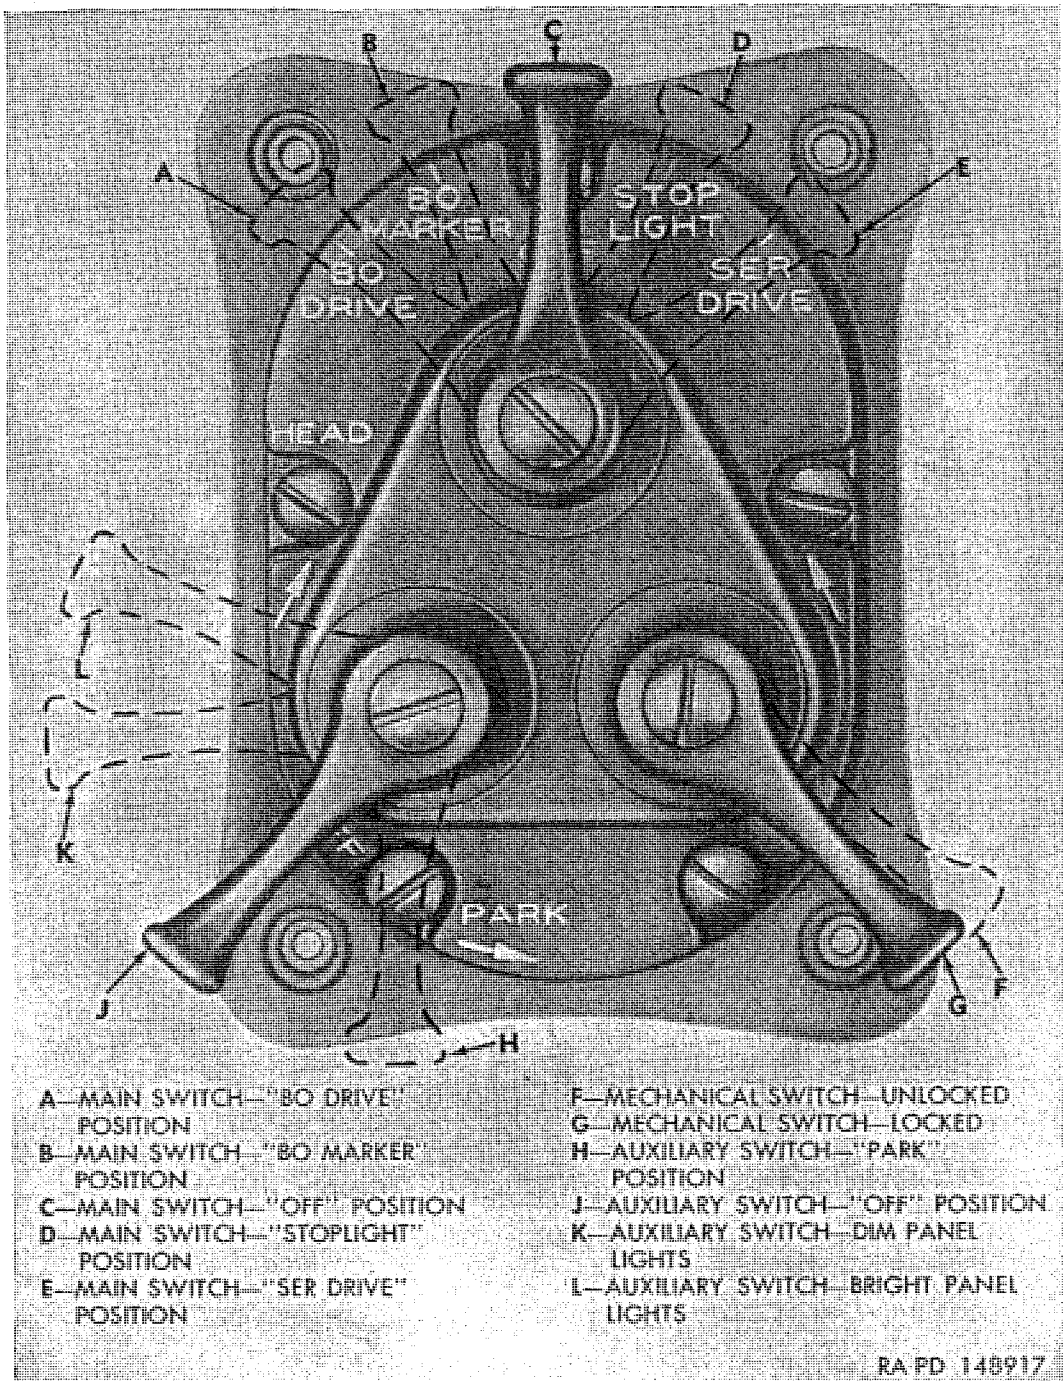
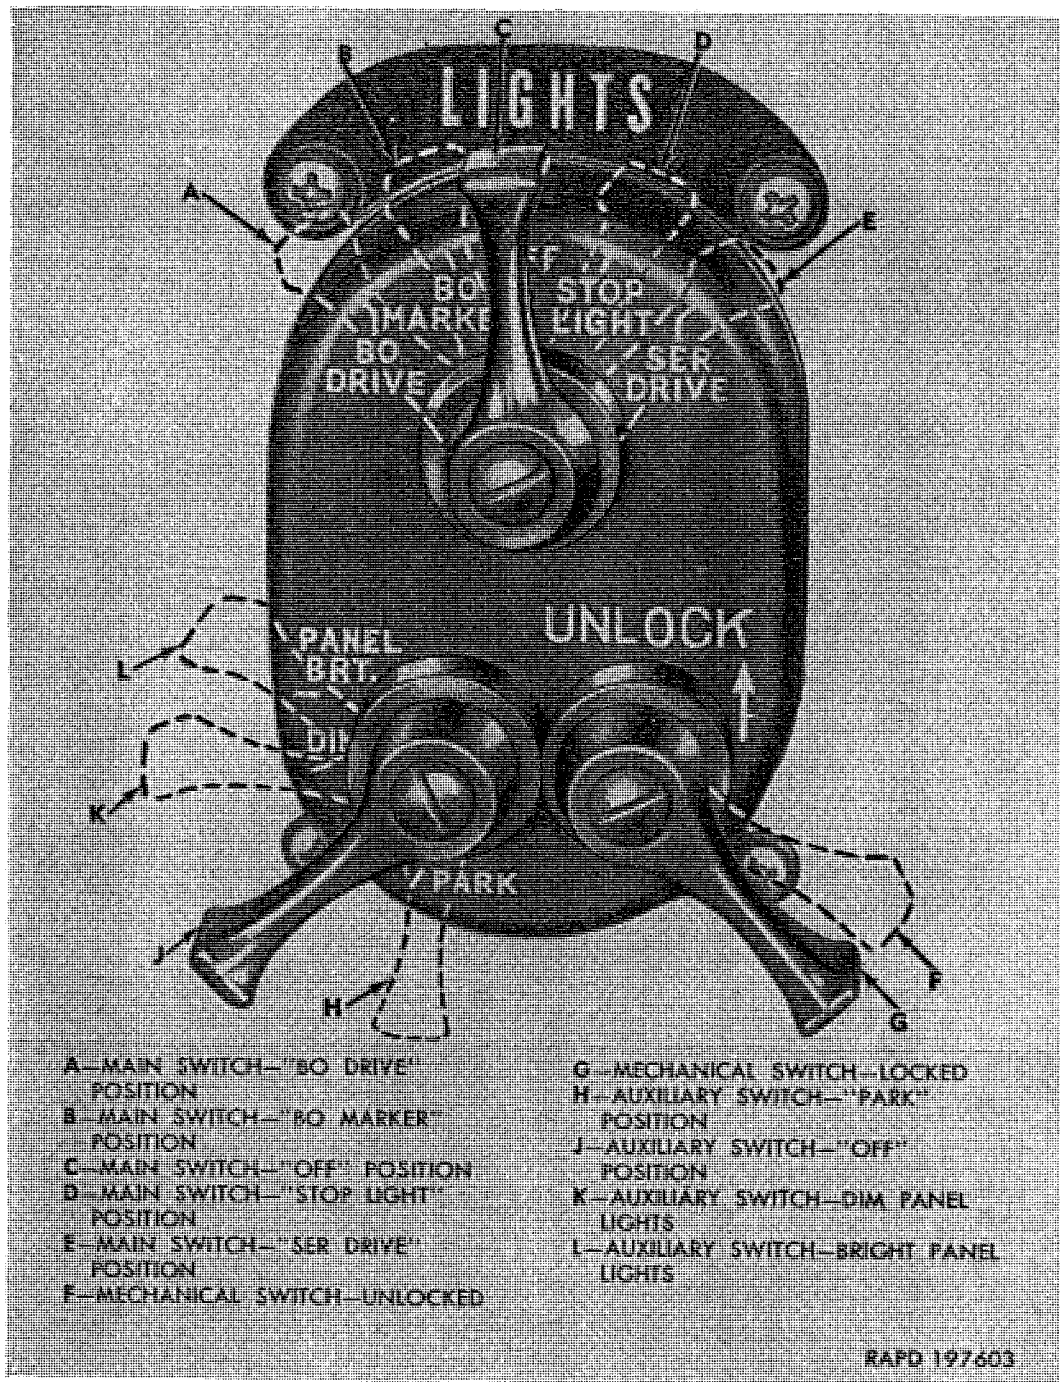

Figure 38. Main light switch (early M135).
Figure 39. Main light switch (late M135 and all other models).
- (2) *Applying trailer brakes.* Trailer brakes are applied and released simultaneously with truck brakes by use of the truck service brake pedal. When trailer brake hand control valve is used (*a(3)* above), valve may be set to produce a slight drag on trailer when descending a grade, or trailer brakes alone may be applied by valve when stopping on slippery surface to avoid jackknifing. Application of truck brake pedal, however, will overrule partial hand control valve setting.
a. Main Light Switch Levers. All lights are controlled by a three-lever main light switch (fig. 38 or 39) located on instrument board as shown in Y, figure 29. Light switch shown in figure 38 is used on early M135, while switch shown in figure 39 is used on late M135 and all other models. The late switch (fig. 39) is more adequately marked at mechanical and auxiliary switch positions. Both switches, however, operate the same.
- (1) *Main switch lever.* The five-position main switch lever is located at upper part of switch with lever pointing up (fig. 38 or 39). This lever can be positioned to control all lights except instrument cluster lights and parking lights. The mechanical (or locking) switch lever must be raised up (toward UNLOCK, F, fig. 39) when positioning main switch lever to BO DRIVE, STOPLIGHT, or SER DRIVE positions.
- (2) *Auxiliary switch lever.* The auxiliary switch lever is located to the left and below main switch lever (fig. 38 or 39). This lever may be positioned to control parking and instrument cluster lights when main switch lever is in positions as explained in *b* below.
- (3) *Mechanical switch lever.* The mechanical (or locking) switch lever is located to the right and below the main switch lever (fig. 38 or 39). This lever must be held in a raised position (toward UNLOCK, F, fig. 39) before main switch lever can be positioned to BO DRIVE, STOPLIGHT, or SER DRIVE positions.
- b. Operation of Main Light Switch (fig. 38 or 39).*
- (1) *OFF position.* When main switch lever is in OFF position, all lights are off.
- (2) *BO MARKER position.* When main light switch is turned to BO MARKER position, circuits for front blackout marker light, blackout stoplight, and blackout taillights are energized. The auxiliary switch lever can be turned to positions shown in figures 38 and 39 for dim or bright instrument cluster lights.
- (3) *BO DRIVE position.* The mechanical switch lever must be held raised to UNLOCK position while main switch lever is
- (5) *SER DRIVE position.* The mechanical switch lever must be held raised to UNLOCK position while main switch lever is positioned to SER DRIVE. Main switch lever can be placed into SER DRIVE from STOPLIGHT position without raising the mechanical switch lever. When main switch lever is in SER DRIVE position, right and left service lights and left service taillight are energized. Left service stoplight will illuminate when vehicle service brakes are applied.
- (6) *PARK position.* After main switch lever is placed into SER DRIVE position, auxiliary switch lever can be placed into PARK position to illuminate right and left front parking lights and left service taillight. With main switch lever remaining in SER DRIVE, the placing of auxiliary switch lever into OFF, or into DIM or BRT panel light positions, will again illuminate service headlights.
- (7) *Instrument cluster lighting.* With main switch lever in any position except OFF, auxiliary switch lever can be turned to left from OFF to positions shown on figures 38 and 39. Auxiliary switch illustrated in figure 39 has marked positions under PANEL of BRT and DIM.